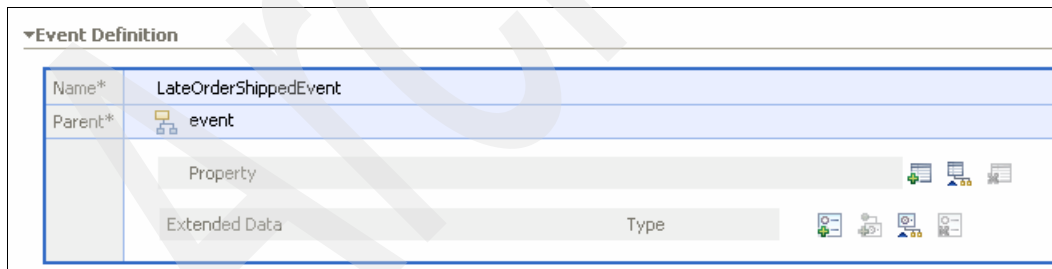

Figure 8-86 The initial event definition
34. An initial event definition is created. Click the **Browse Parent Event** icon to the right of Parent (Figure 8-86).